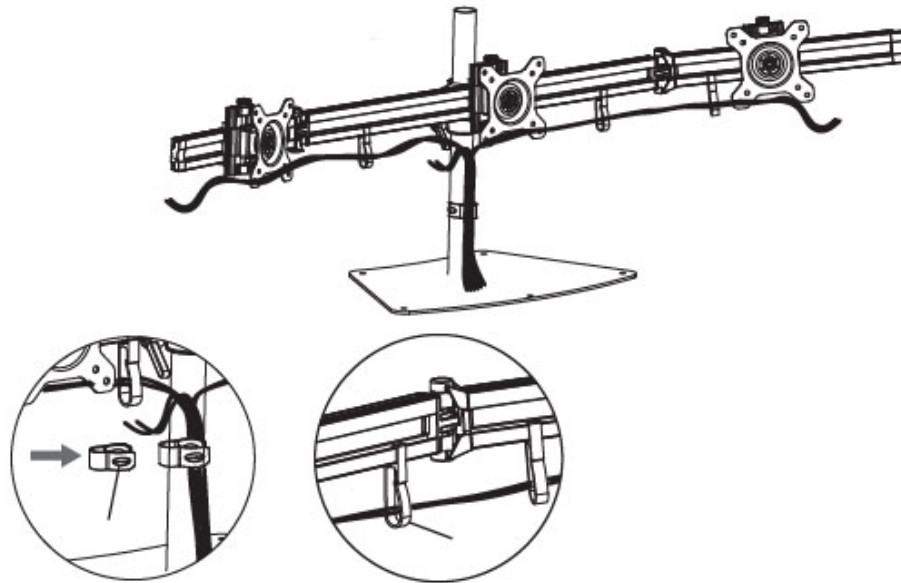

Figure 7
1. Route the cables through the wire clips and down the tube support, see **Figure 7**.